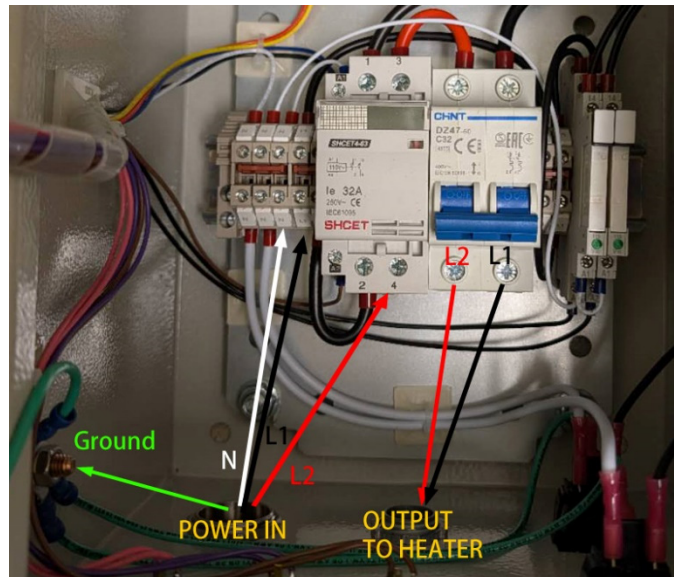

Figure 2. Wiring of the power input and power output.
2. **Power Input.** This panel requires a 240VAC power input with two hot wires (L1 and L2), a neutral (N), and a ground (G). Identify the conductors in the power cord and connect them to the corresponding terminals indicated by the arrows from the POWER IN cable grip in Figure 2. The L2 wire should be connected to the terminal #4 on the main contactor indicated by the red arrow.
4. **Main Power Output.** The main output is 240 VAC (L1, L2) and 30 A maximum. It is protected by a 2-pole 32 A circuit breaker. Connect the two leads from the heating element to the two lower terminals of the circuit breaker indicated by the red and black arrows in Figure 2.